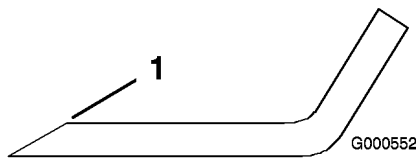

Figure 39
1. Use a file to sharpen the cutting edge at both ends of the blade (Figure 39). Maintain the original angle. The blade retains its balance if the same amount of material is removed from both cutting edges.